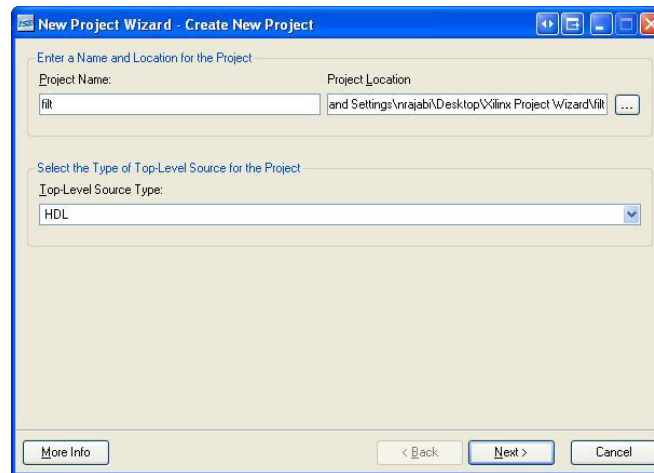

Figure 20: Create New Project
1. Select **File»New Project** to open the New Project Wizard. Name your project “filt” and select HDL for **Top-Level Source Type**. Your dialog box configuration should look similar to Figure 20. Click the **Next** button to continue.